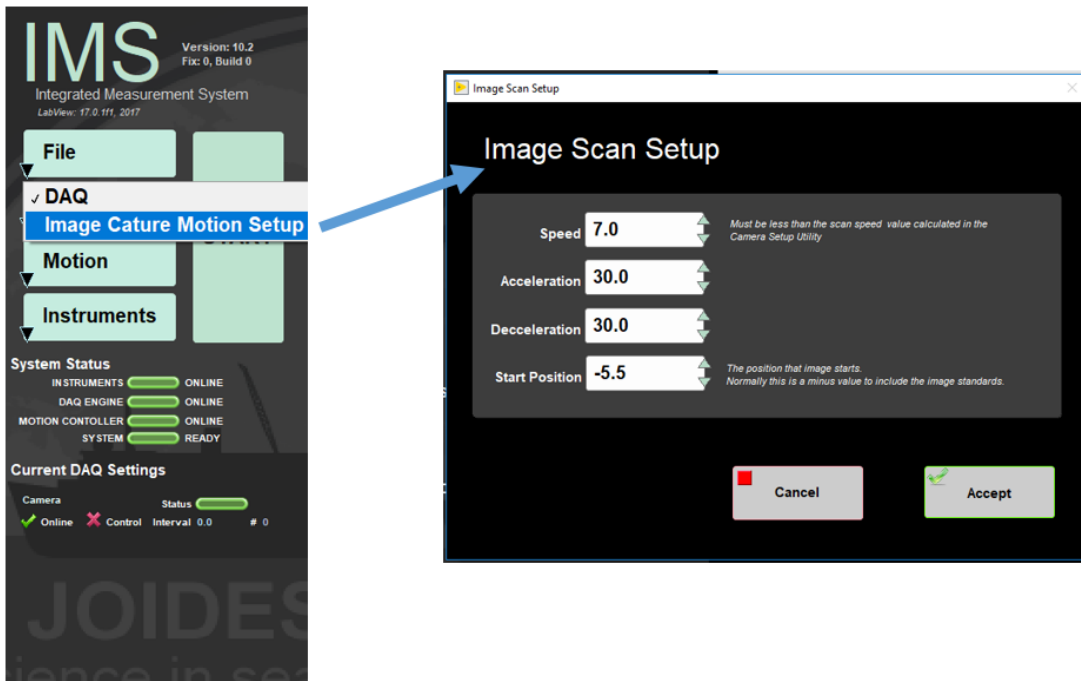

Figure 8. Select Image Scan Setup window
1. Go to **DAQ > Image Capture Motion Setup** (Figure 8).